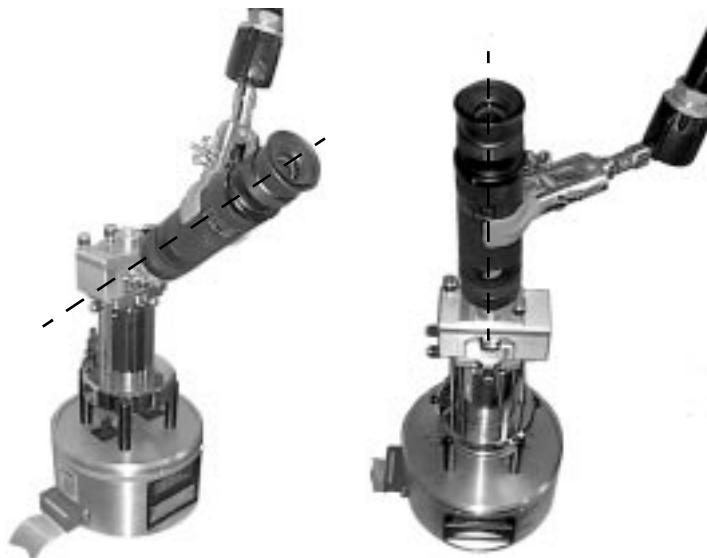

Figure 5.8. Two ways of positioning a magnifier when aligning the laser. Through the head's front window (left), and overhead (right).
1. Position the magnifier (figure 5.8).